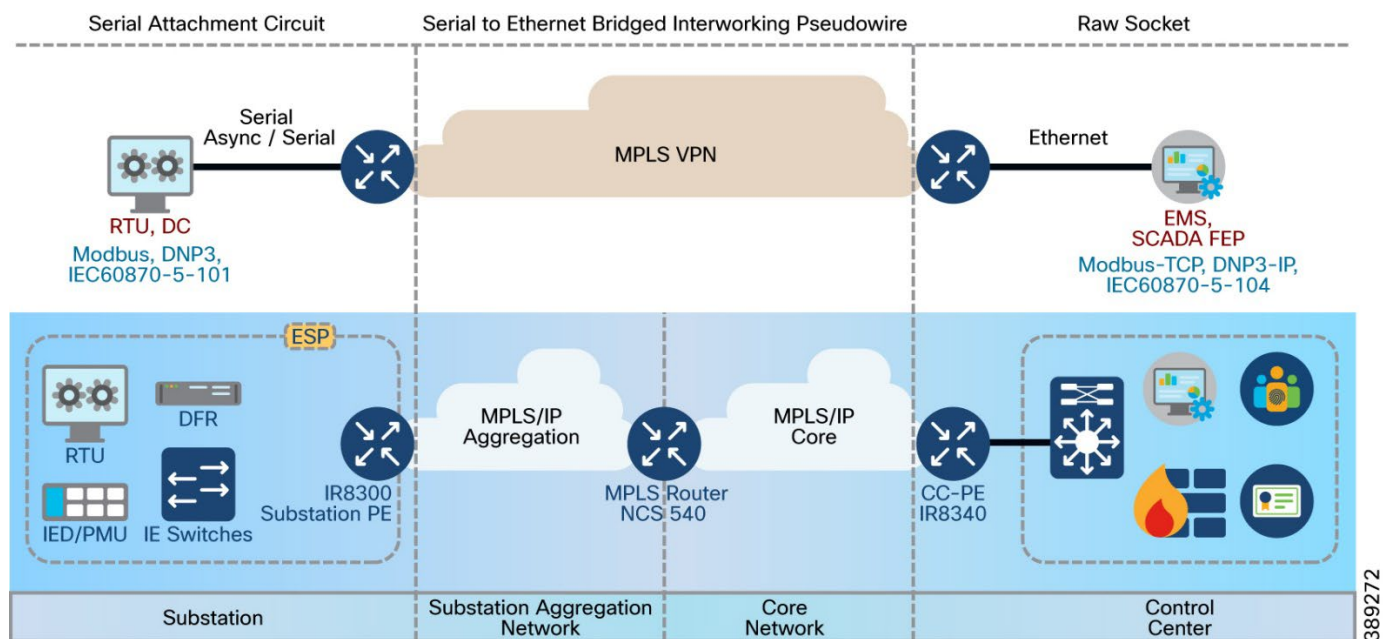

Figure 4
Legacy RTU will be connected to substation router on RS232 serial interface which acts as an attachment circuit. Pseudowire xconnect (serial to ethernet bridged interworking) is provisioned on same serial interface to transport the legacy SCADA traffic from substation to the TSO control center Provider Edge (PE) Router. Pseudowire is terminated on the loopback interface on the control center PE router. The raw socket TCP client is provisioned on same loopback interface to transport the RTU traffic to SCADA Front End Processor (FEP) application which is connected to LAN side of control center PE router via firewall. See Figure 4.